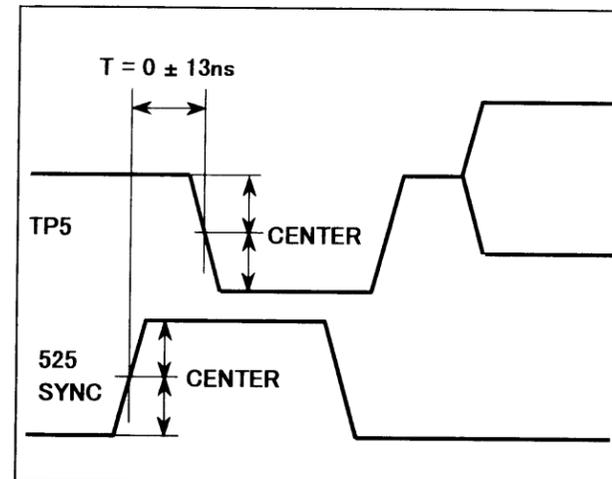

Figure 12
4. Adjust VR8 so that the "T" becomes as shown in Figure 12.